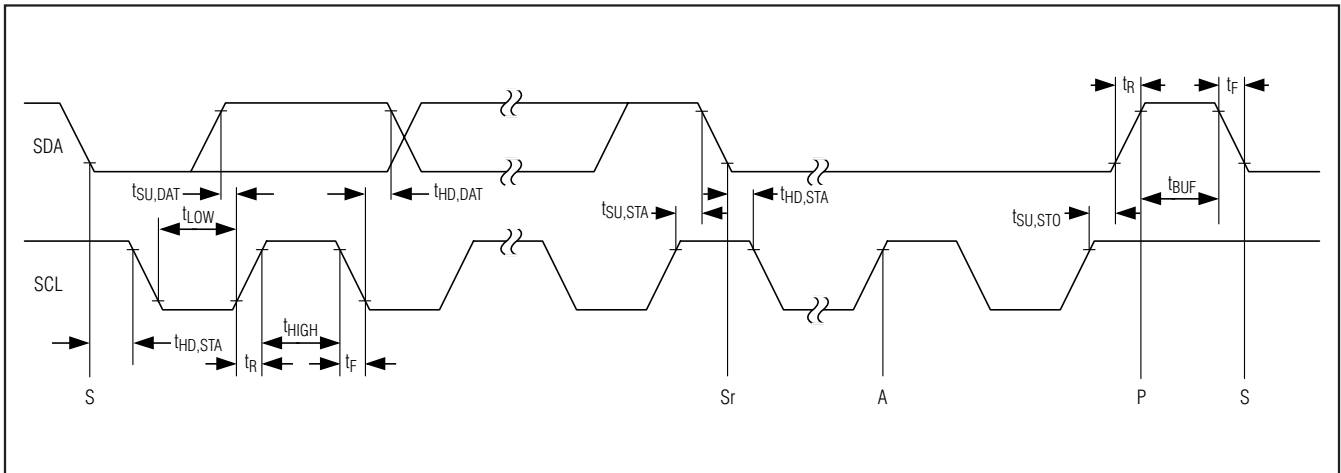
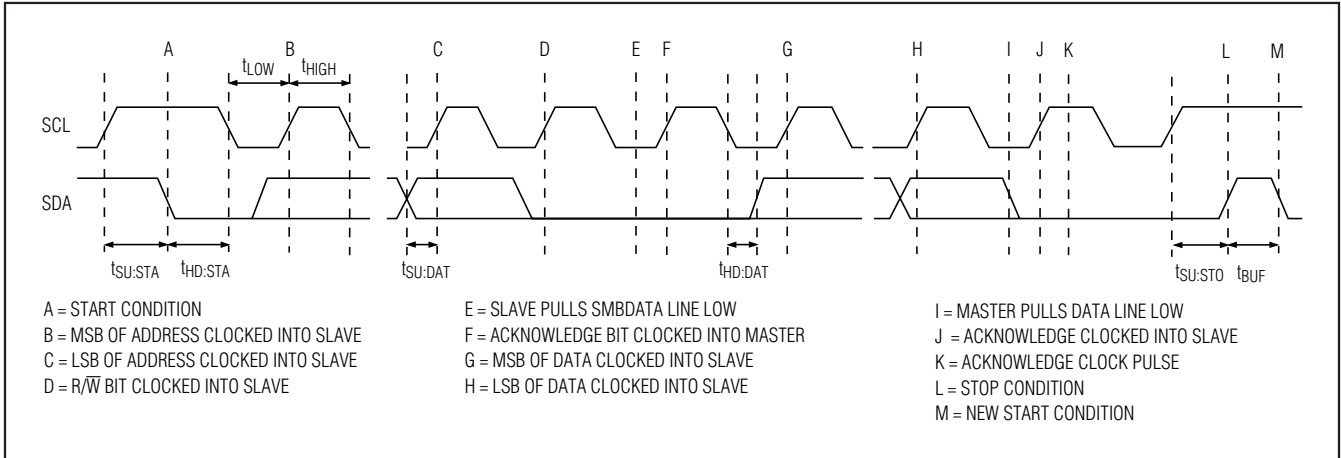

Figure 1. I²C Serial Interface Timing
Figure 3. I²C Write Timing Diagram
The master initiates a transmission with a START condition (S), a high-to-low transition on SDA with SCL high. The master terminates a transmission with a STOP condition (P), a low-to-high transition on SDA while SCL is high (Figure 3). The STOP condition frees the bus and places all devices in F/S mode (Figure 1). Use a repeated START condition (Sr) in place of a STOP condition to leave the bus active and in its current timing mode.